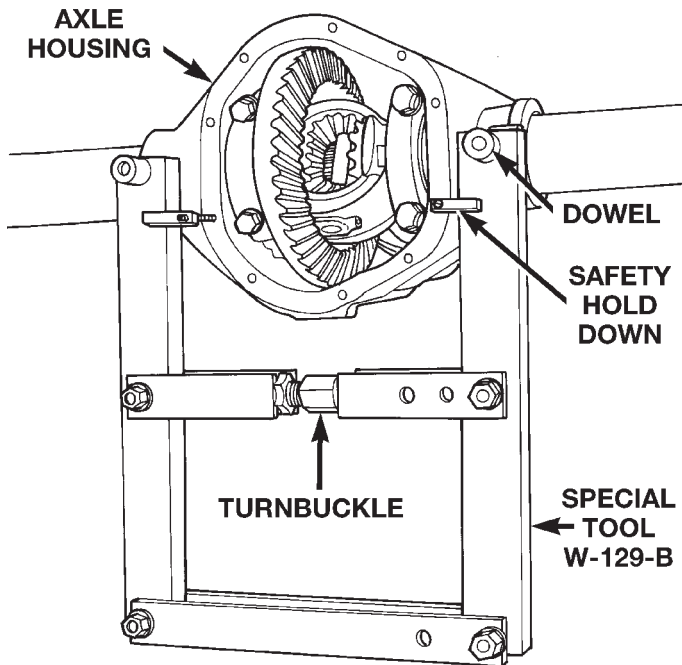

Fig. 21 Install Axle Housing Spreader
(1) Position Spreader W-129-B, utilizing some items from Adapter Kit 6987, with the tool dowel pins seated in the locating holes (Fig. 21). Install the holddown clamps and tighten the tool turnbuckle finger-tight.